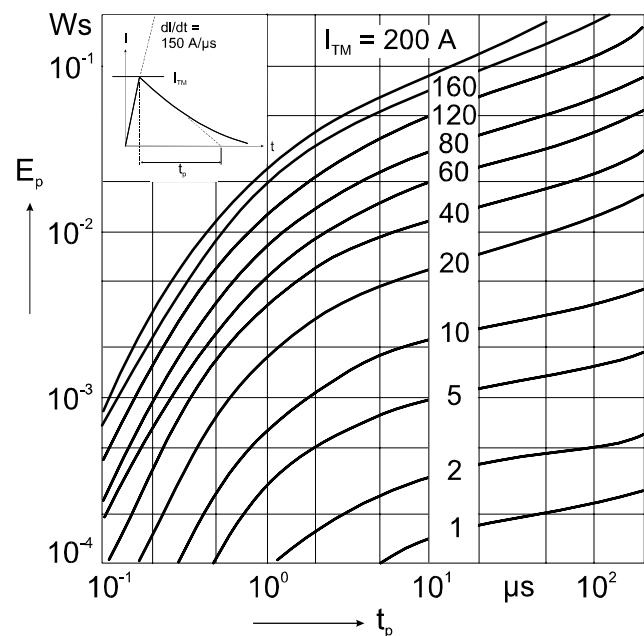

Fig. 6 Energy per pulse for single BOD element for exponentially decaying current pulse.  $E_p$  must be multiplied by number of elements for total energy.
- a. The maximum junction temperature shall be calculated for a module IXBOD 1-30R at an ambient temperature  $T_a = 60^\circ C$ , an exponentially decaying current  $I_{TM} = 40A$ , a pulselength  $t_p = 2 \mu s$ , an operating frequency  $f = 50 Hz$  and natural convection. From the diagram Fig. 6 the energy per pulse is obtained: